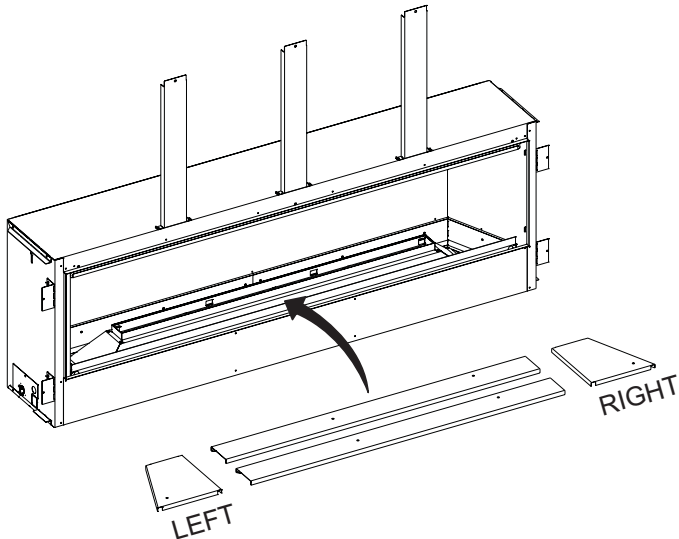
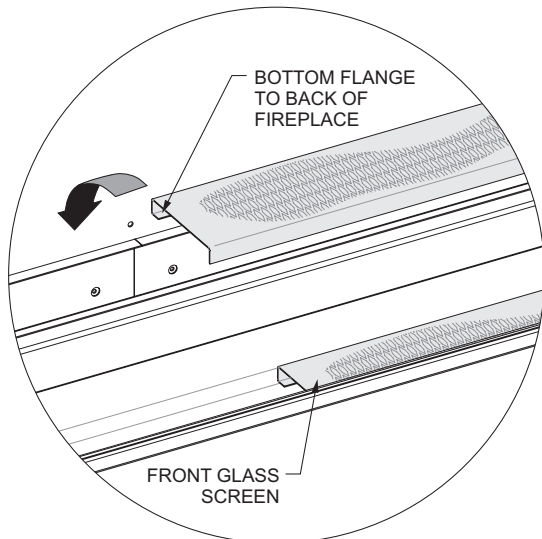

Figure 53
Figure 54
4. Install the burner screens as shown in **Figure 53**. If installing an optional log set, refer to the log set instruction manual for placing the log pins into the burner screens. **See Figure 54**.
NOTICE: The flange on the bottom of the front and rear burner screens must be toward the rear of the fireplace. **See Figure 54**.